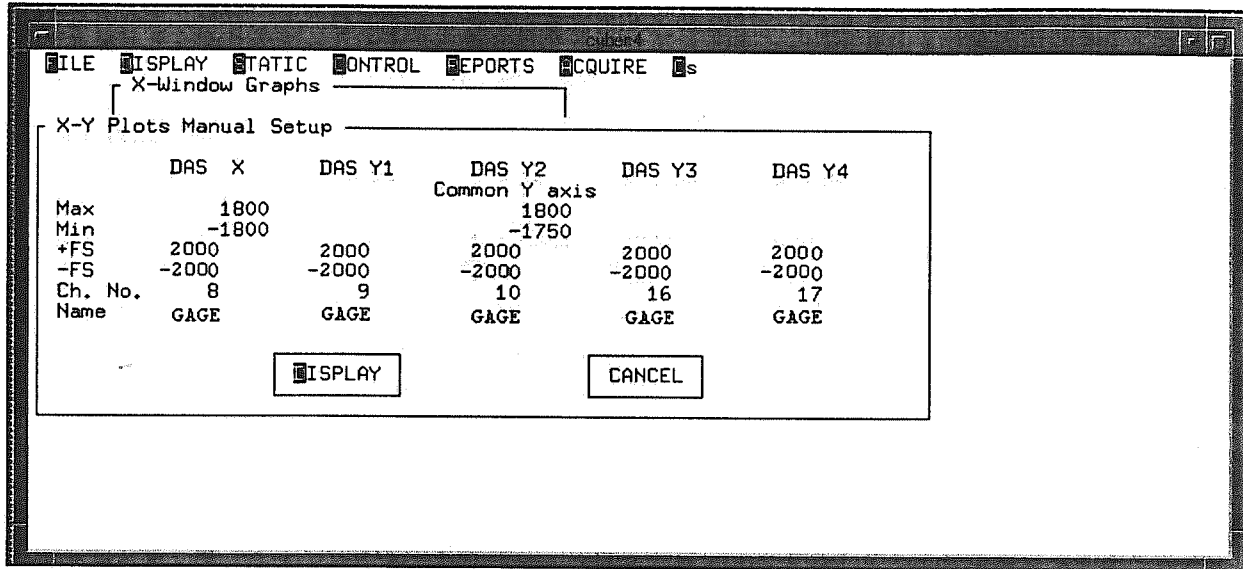

Figure 12-10 Dialog Box used to Manually Define the X-Y Plot Scales
Step 10) Select **OK** or press **RETURN**. Since "**Manual**" was the selected scaling method, the dialog box illustrated in **Figure 12-10** is displayed.